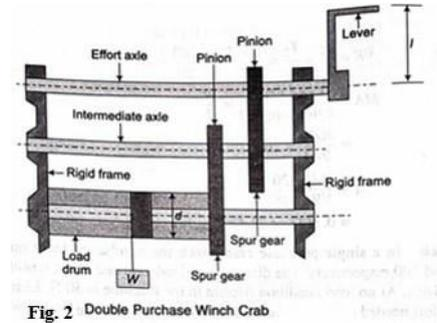

Fig. 2 Double Purchase Winch Crab
**Mathematical Expression (Refer Fig. 2)**